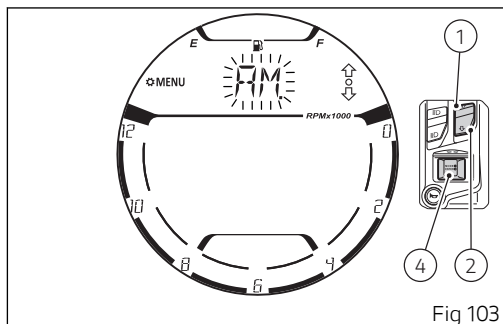

Fig 103
The first parameter that can be modified is AM / PM. The value currently set is displayed flashing (Fig 103). Use buttons (1) and (2) to toggle from "AM" to "PM" and vice versa.